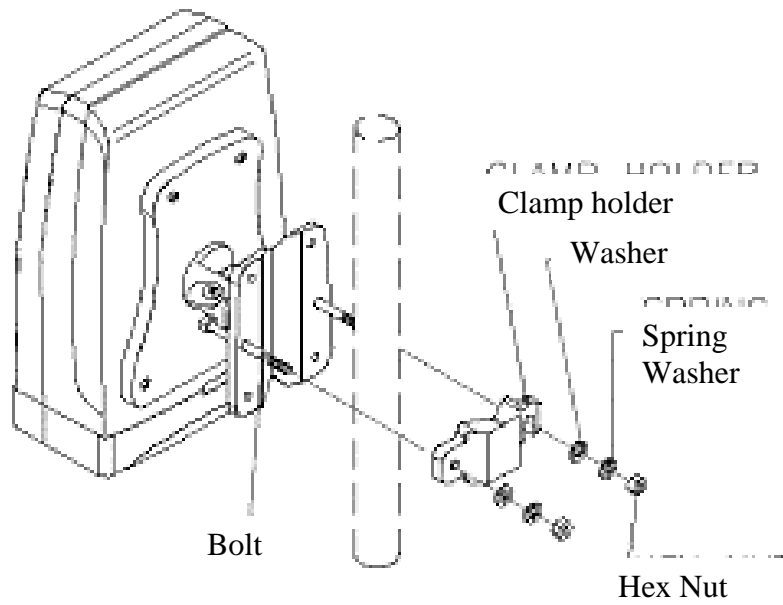

Figure 10-9: IDR pole mounting components
1. Offer up the IDR assembly to the pole as shown in Figure 10-9.